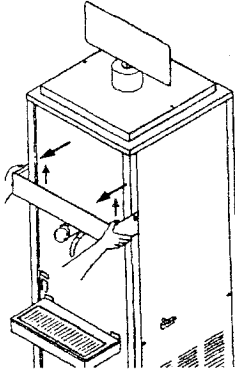

Fig. 2
A. Lift off the syrup rack. (See Fig. 2).